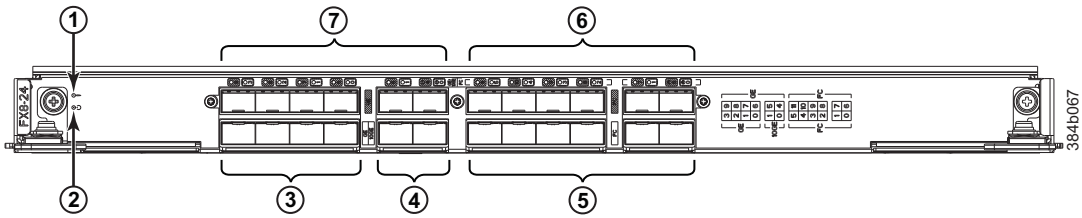

Figure 66. FX8-24 extension blade
- Figure 66 on page 172 shows an FX8-24 extension blade